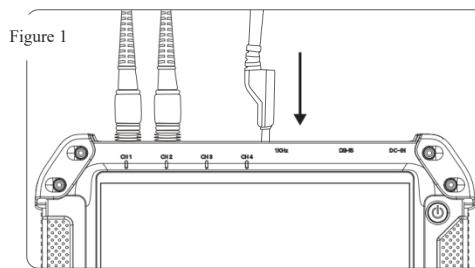
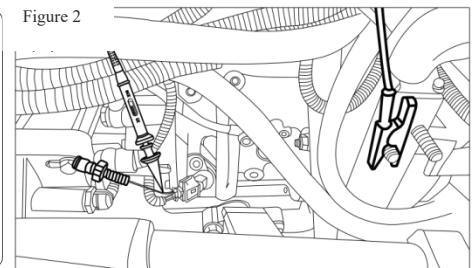

Figure 1
Figure 2
4. Connect the oscilloscope probe to the host, as shown in Figure 1 connect the oscilloscope probe to the target circuit, as shown in Figure 2: The oscilloscope probe has 2 gears: X1, X10, please be sure to put the button on the gear of the X1, as shown in Figure 3 (probe has been locked in the position of the X1 when it was manufactured, if you have no special needs, please do not open)